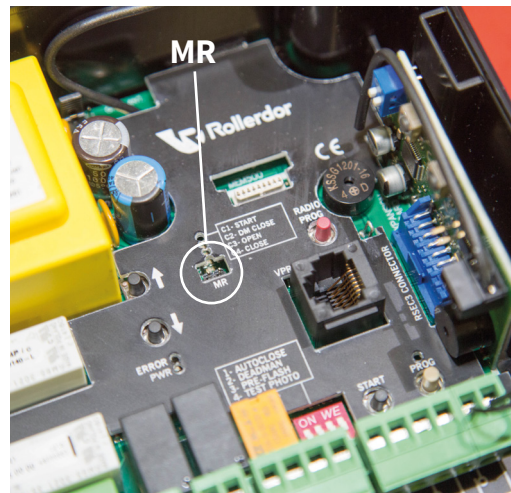

fig.13
- 1 Press and hold the “RADIO PROG” button (**fig.13**). You will hear a beep and the red LED alongside “C1” will illuminate.
- 2 Insert screwdriver between the 2 pin terminals on the board (MR) to bridge between them (**fig.13**).
- 3 Press and hold the “RADIO PROG” button (**fig.13**). The panel will beep 8 times and then go into 1 continuous beep. As soon as you hear this, release “RADIO PROG” button and then remove screwdriver from terminals and board will stop beeping.